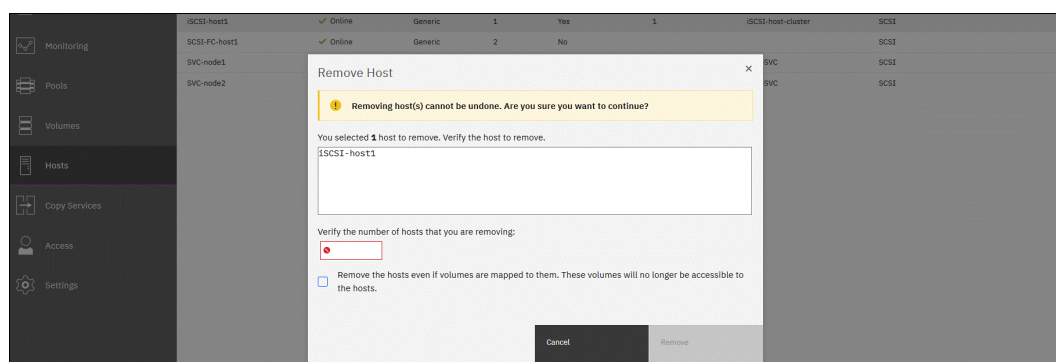

Figure 7-53 Confirming the removal of the host
2. Confirm that the correct list of hosts is displayed in the window by entering the number of hosts to be removed and click **Remove** (see Figure 7-53).